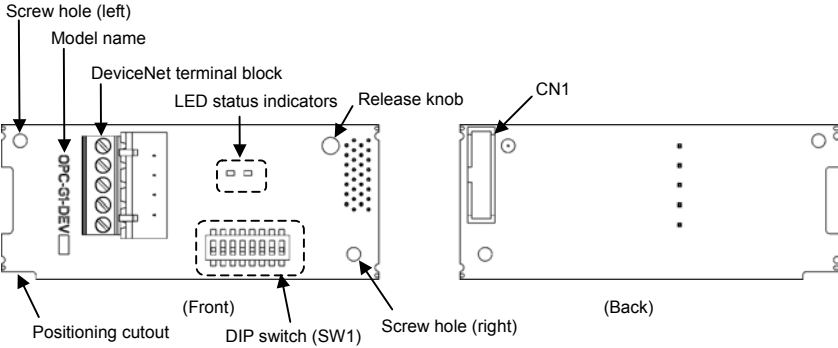
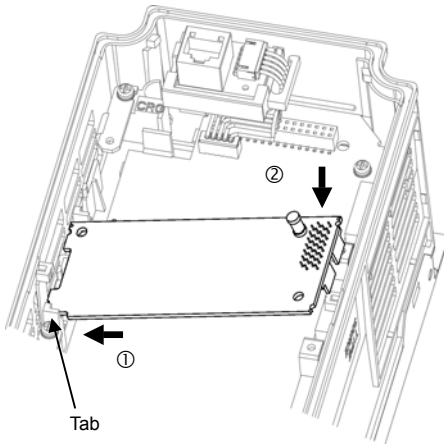
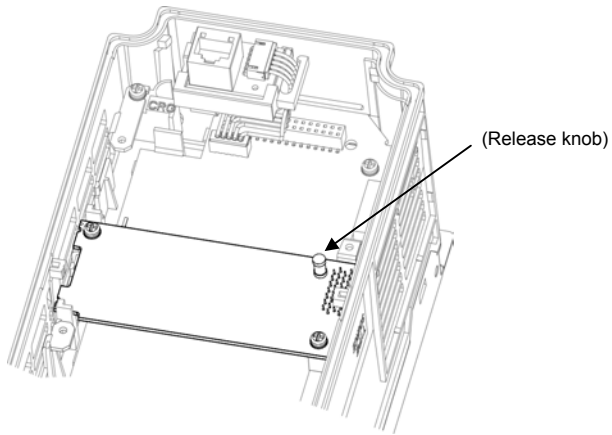

Figure 2.1 Names of Parts on DeviceNet Communications Card (OPC-G1-DEV)
Figure 3.2 Mounting the Communications Card (to B-port)
Figure 3.3 Mounting Completed (on B-port)
- (1) A communications card, two screws (M3 × 8), and the DeviceNet Communications Card Instruction Manual (this manual) are contained in the package.
- (2) The communications card is not damaged during transportation--no defective parts, dents or warps.
- (3) The model name "OPC-G1-DEV" is printed on the communications card. (See Figure 2.1.)
Figure 2.1 shows the names of the parts on the DeviceNet communications card.
- (2) Insert connector CN1 on the back of the communications card (Figure 2.1) into any of the A-port (CN4), B-port (CN5), and C-port (CN6) on the inverter's control PCB. Then tighten the two screws that come with the card. (Figure 3.3)
Check that the positioning cutout (shown in Figure 2.1) is fitted on the tab (① in Figure 3.2) and connector CN1 is fully inserted (② in Figure 3.2). Figure 3.3 shows the communications card correctly mounted.
- (3) Perform wiring on the communications card.